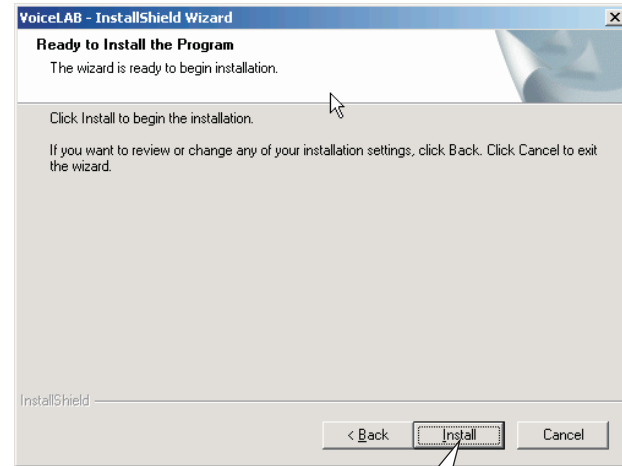

Figure 21
- Click the Install button to install the program into your PC, as shown in figure 21: